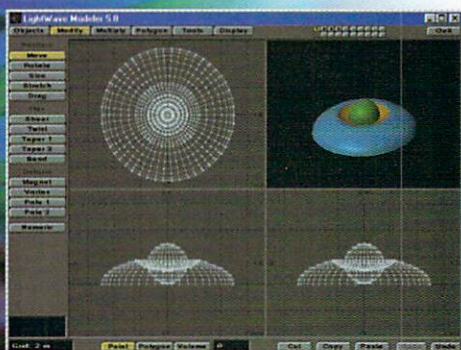

Figure 6
19. At the bottom of the screen select Copy. Select the box in the top layer containing your main UFO and at the bottom of the screen select Paste. The UFO is starting to look pretty good (see Figure 6)!